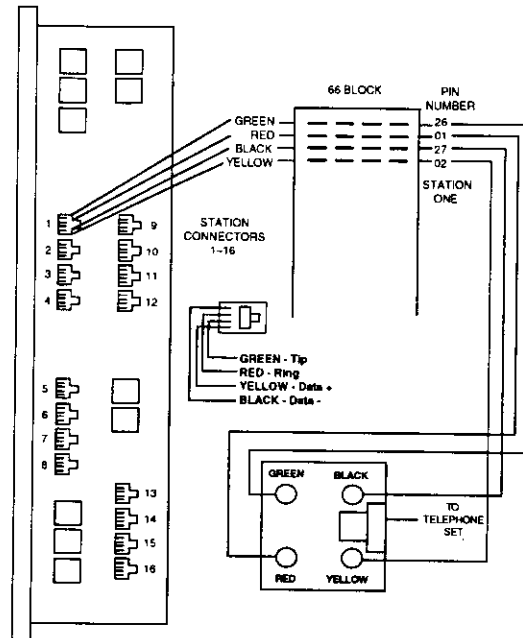

FIGURE 10
Terminate the keyset/slt end of each station cable on a 4-conductor modular jack assembly as shown in Figure 10.
2. Connect the wires at the other end of the cord to a connecting block. See Figure 10.